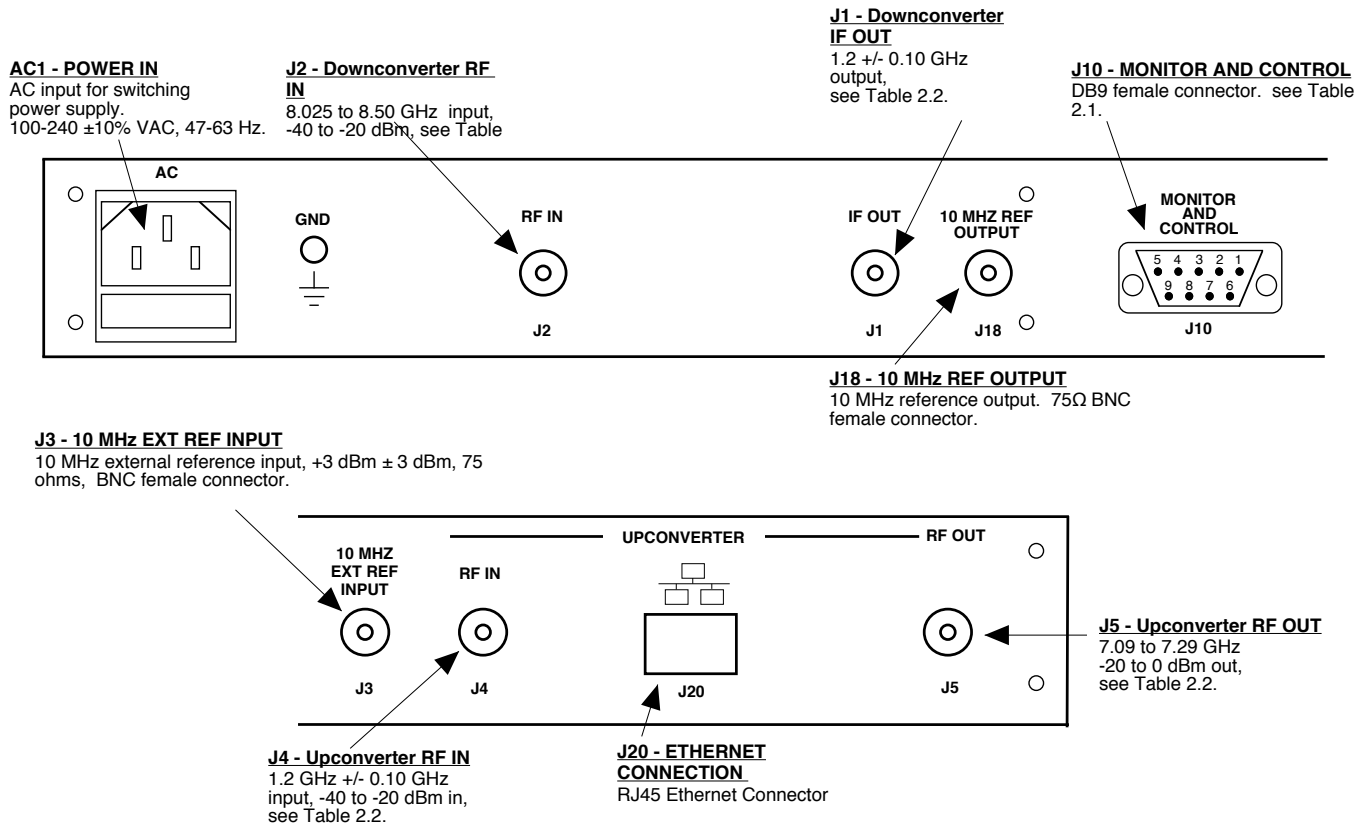

Figure 2.1 Model 3117-7283#-1200 Rear Panel I/O's
- 1.) Connect a -40 dBm to -20 dBm signal to RF In, J4 (Figure 2.1).
- 1.) Connect a -40 dBm to -20 dBm signal to RF In, J2 (Figure 2.1).